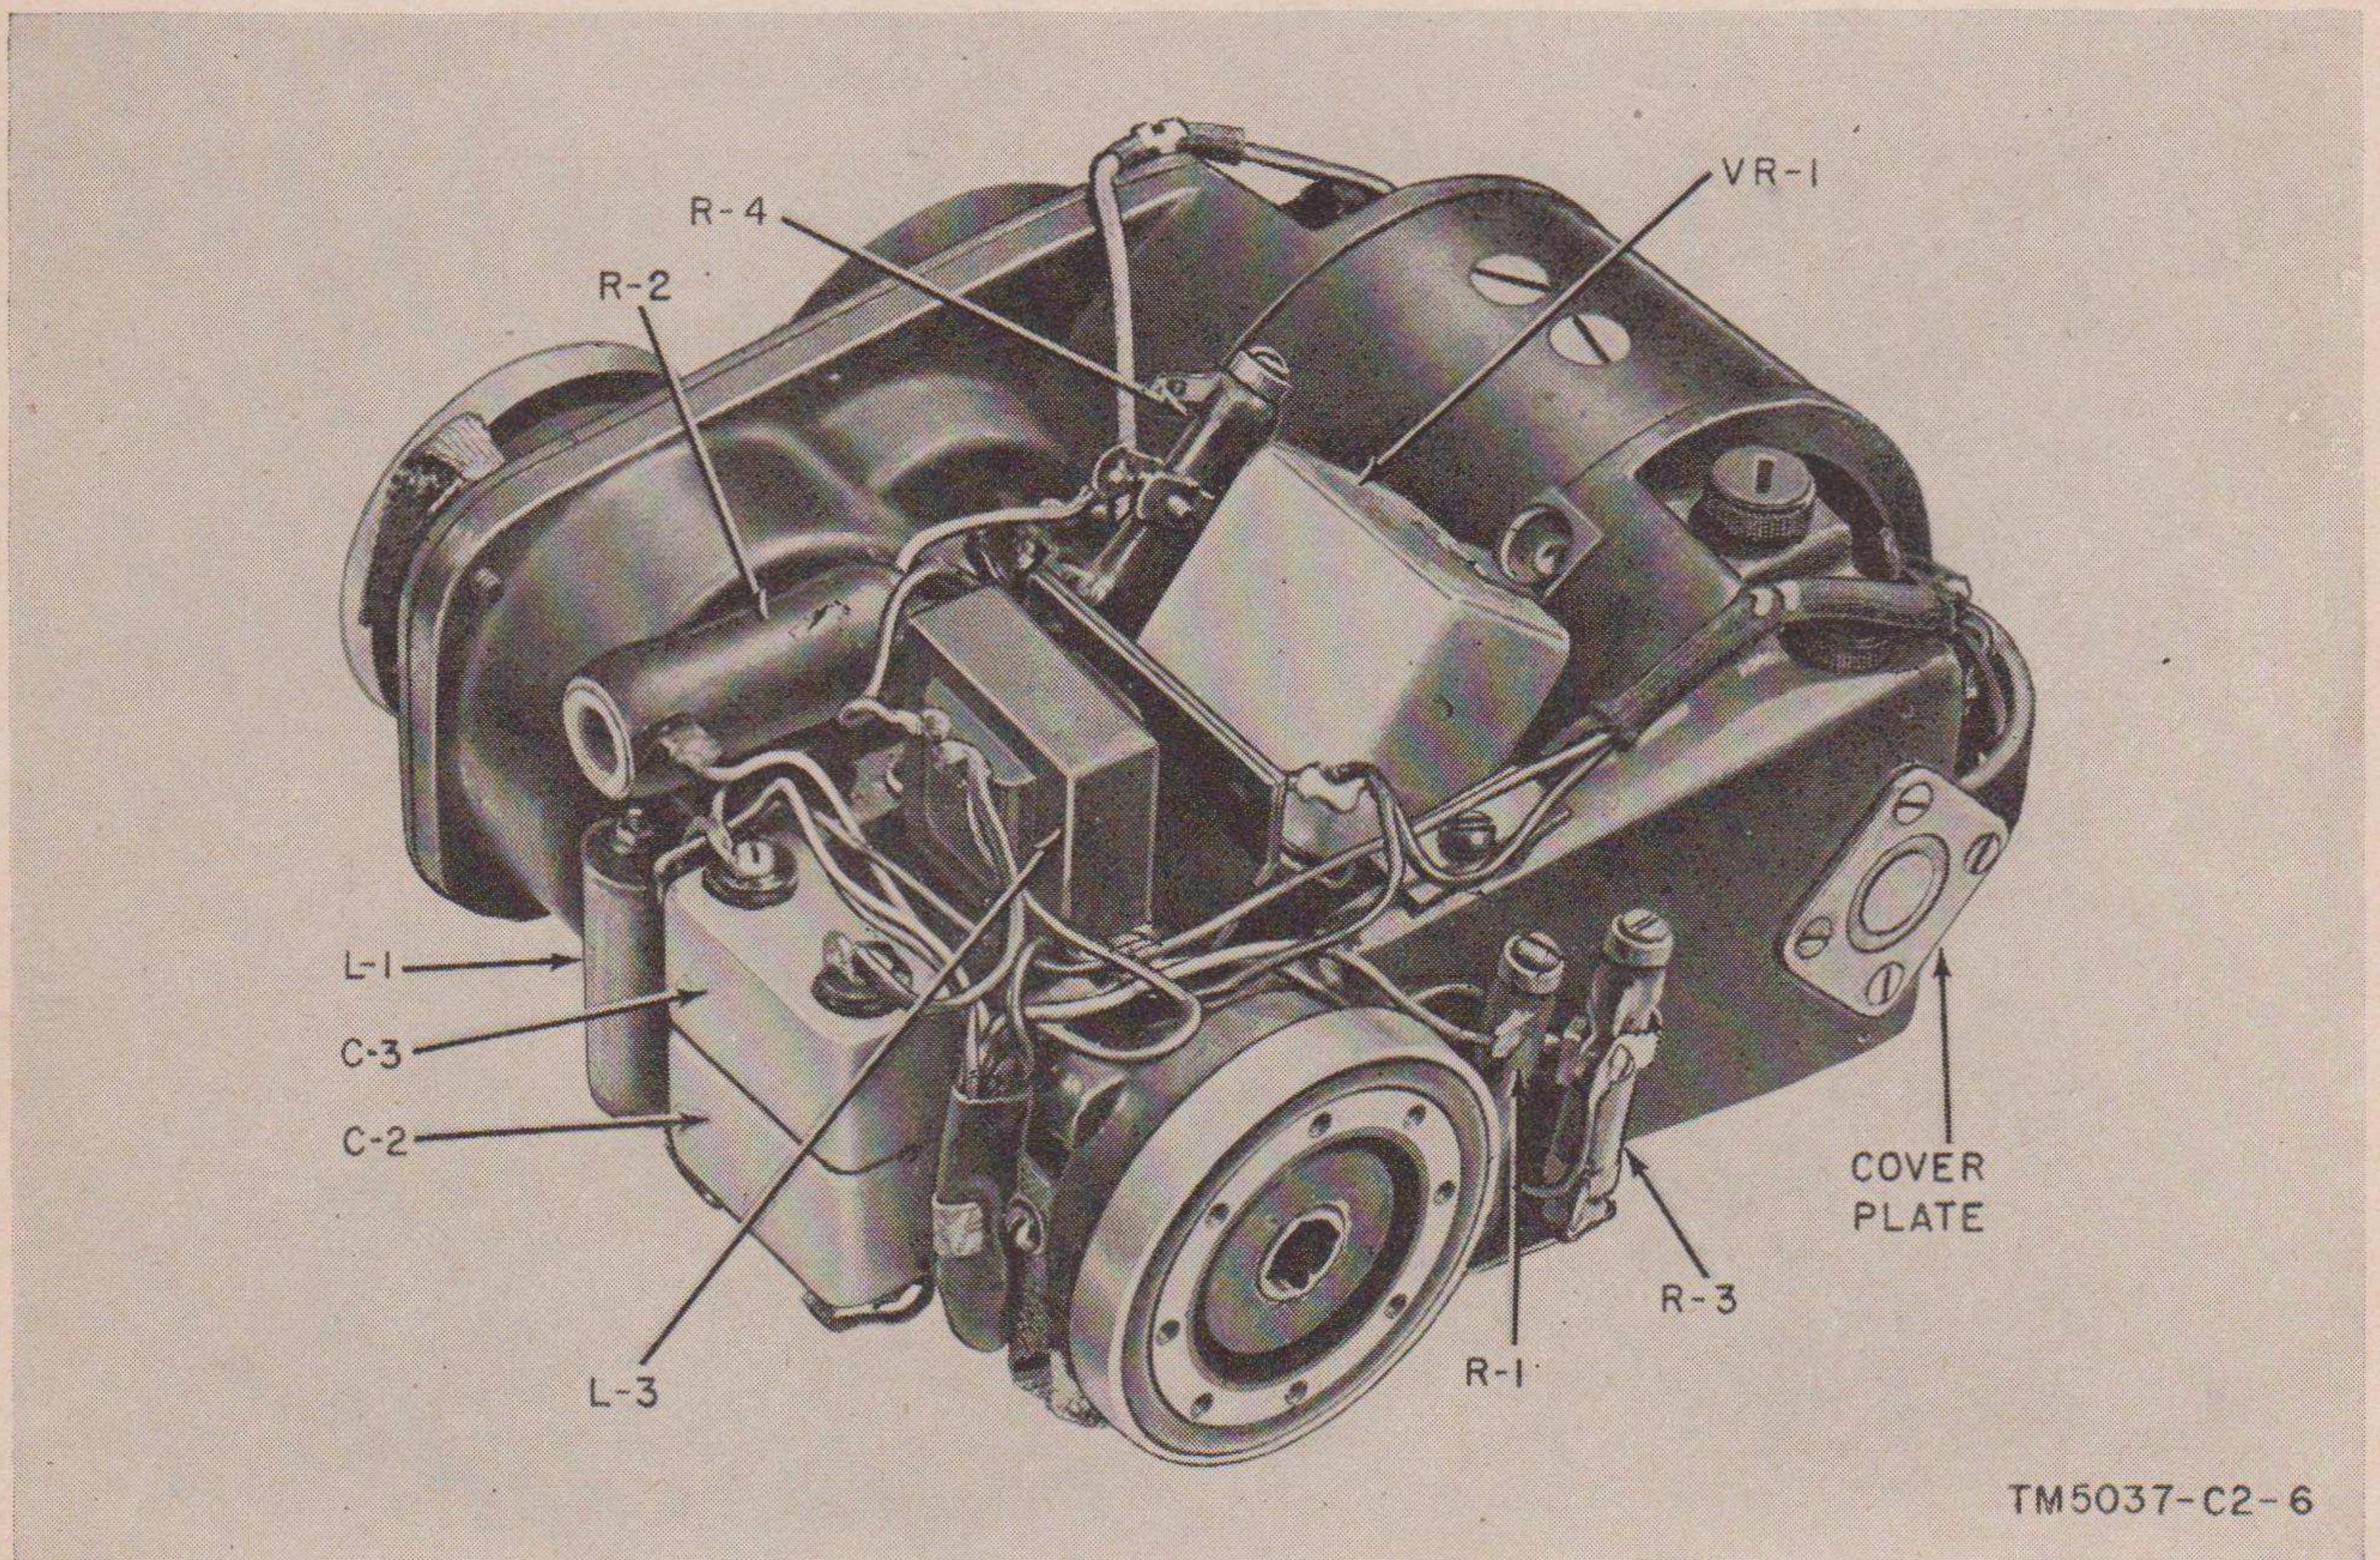

Figure 6.2 (Added). Generator G-8A/GRC, underside view with case removed.
f.1 (Added) On Generator G-8A/GRC, test the armature for end play by moving it back and forth. End play should not exceed .005 to .015 inch. If the fit is too tight or too loose, remove the bearing cover plate (fig. 6.2), which is attached with four screws to the opposite end of the generator, and add or remove shim washers as necessary.